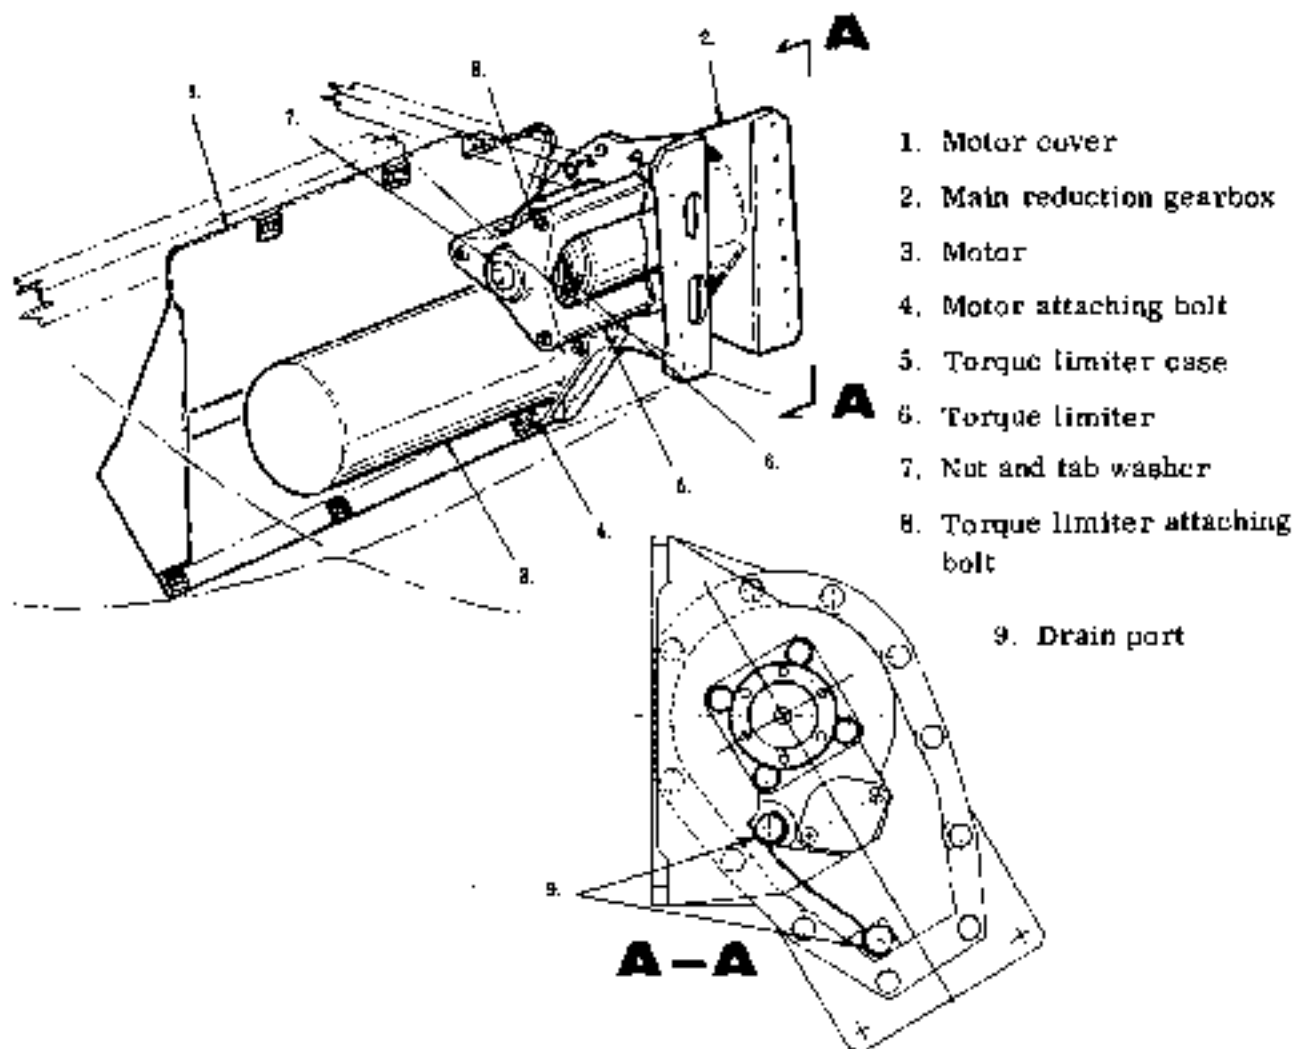

Fig. 4-45 Motor and torque limiter
4.4.1 REMOVAL AND INSTALLATION (See Fig 4-45)